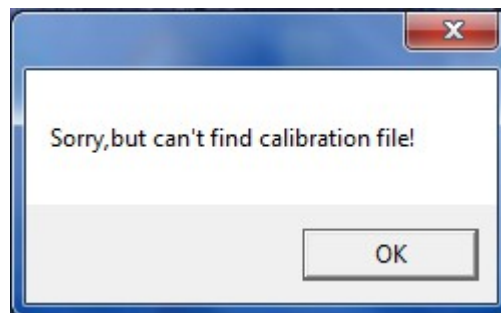

Figure 6 Needs to copy Calibration file
*If clicking on the TSA ICON for Desktop, the “Sorry but can’t find calibration file!” warning appears, **Figure 6**. It means the **amp_ofst.dat** and **freq_ofst.dat** file from CD is missing in the data folder.